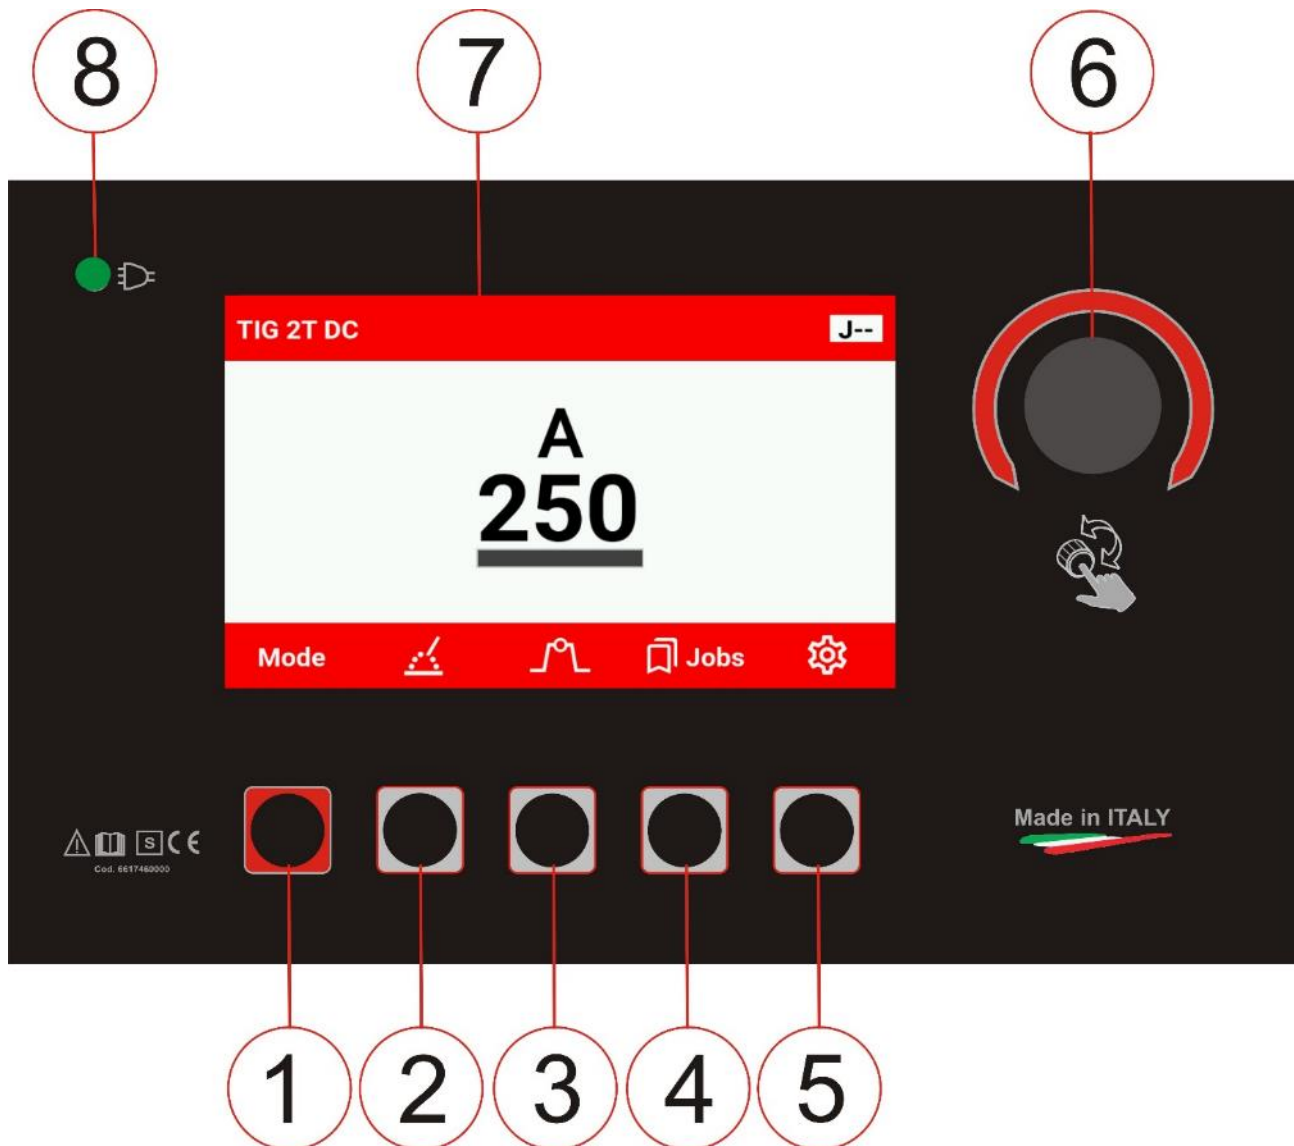

Fig. 4
1) Press the button MODE (Fig. 4, ref.1, Pg 11) to enter in the menu.
2) Use the encoder (Fig. 4, ref.6, Pg 11) to select the function STICK and press the encoder to confirm the choice.
5) Use the encoder (Fig.4, ref. 6, Pg 11) to set your welding amperage, which is shown in the LCD.
1) Press the button  (Fig. 4, ref.2, Pg 11)
2) Select the Manual or Easy set function through the encoder (Fig. 4, ref.6, Pg 11)